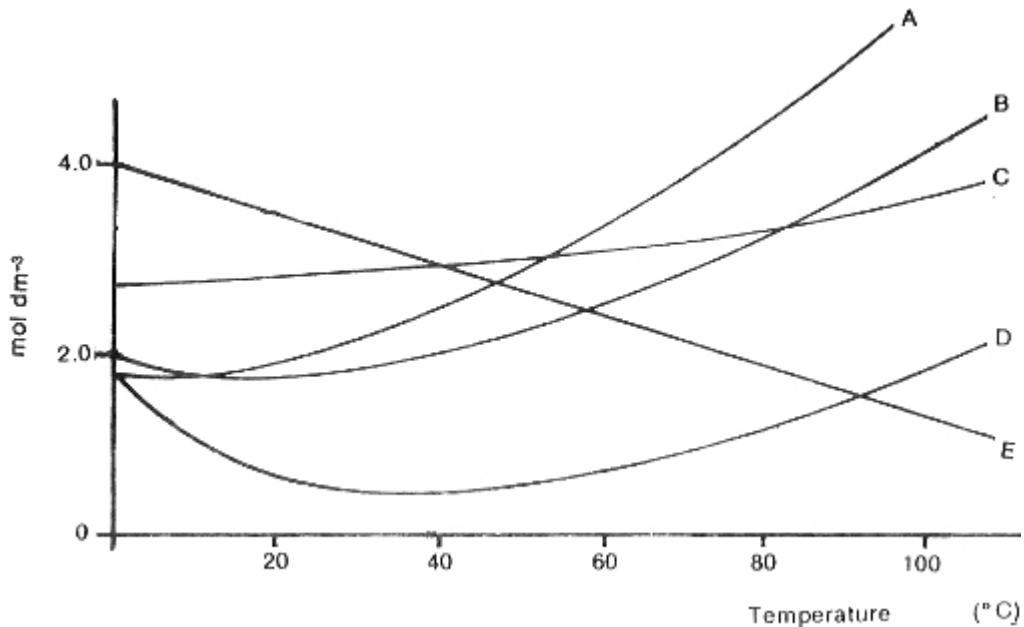

Figure 9.7 Solubility curves of A, B, C, D & E
1. Figure 9.7 represents the solubility curves of substances A, B, C, D and E.
Which of the substances A, B, C, D, and E in Figure 9.7 shows an unusual solubility behaviour?